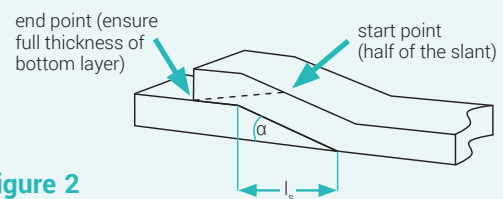

figure 2
- Complete the gasket by placing the sealing tape over the skived end and overlap approx. 10 - 15 mm of the sealing tape (figure 2).
- For the second skive cut identify and mark the start and end points (figure 2).